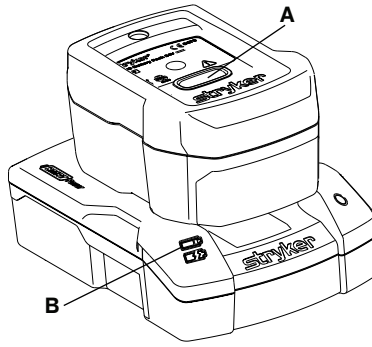

Figure 42 – Charging the SMRT Pak
To charge the **SMRT Pak** (Figure 42):
- The **SMRT** charger LED indicator (B) will flash green while charging (Figure 42). The optimum charge time is two hours.
- When the **SMRT Pak** is charged and ready for use, the **SMRT** charger LED indicator (B) turns to solid green.
2. Press the red release button (A) (Figure 42) and slide the **SMRT Pak** to release the charged and ready **SMRT Pak** from the **SMRT** charger.